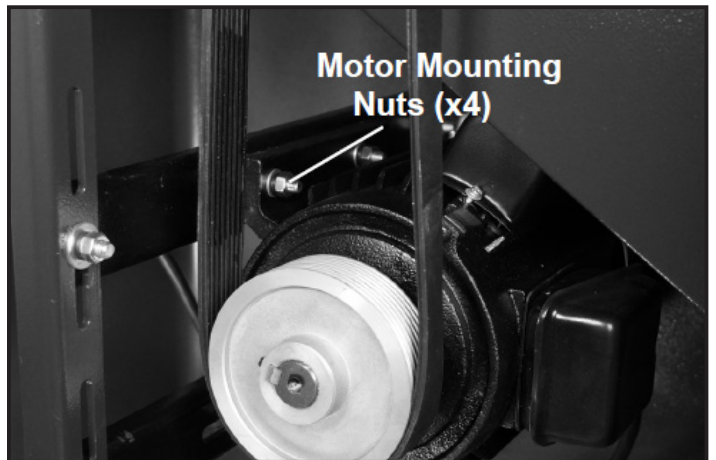

FIG.5.3.1
- Loosen the four 13mm motor mounting nuts holding the motor onto the inner slide rail. Fig. 5.3.1.
- After the pulleys are properly aligned, tighten the four 13mm motor mounting nuts holding the motor onto the inner slide rail. Fig. 5.3.1